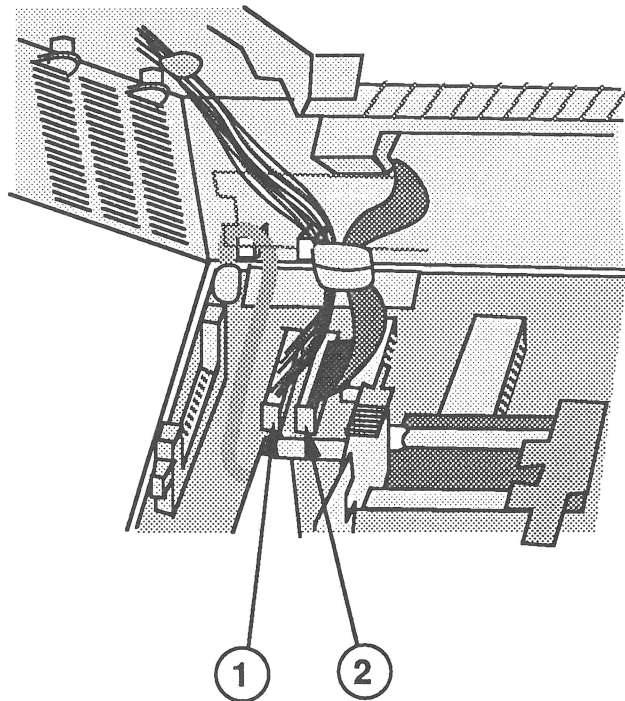

FIGURE 19
- Control Panel PCA cable to connector CN13 (Figure 19, #1)
- Option Card PCA cable to connector CN15 (Figure 19, #2)